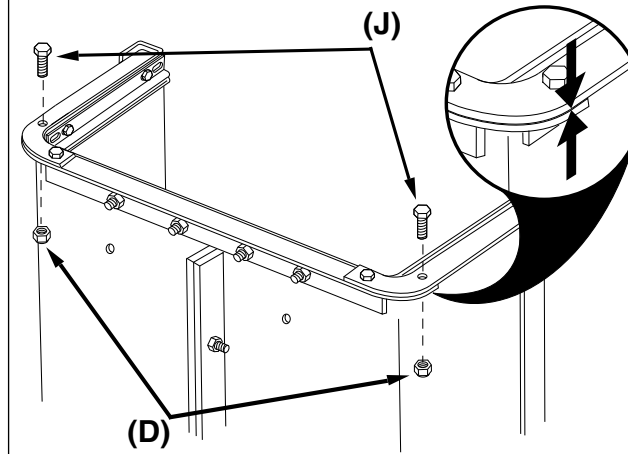

Figure 5
STEP 5 (SEE FIGURE 5): Assemble the LH and RH Rear Angles to the cart bed using two 1/4" x 3/4" hex bolts (J) and 1/4" nylock nuts (D).